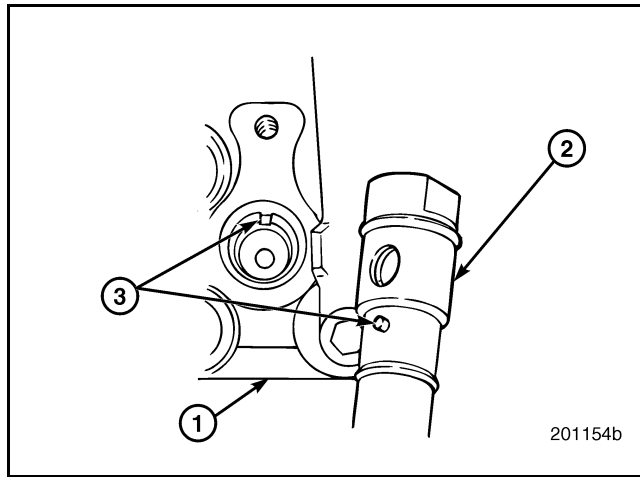

Figure 282 — Nozzle Holder Alignment
4. Insert the nozzle holder in the nozzle holder sleeve. Be sure to align the locator pin in the nozzle holder with the notch in the nozzle holder sleeve to ensure inlet tube alignment. Refer to Figure 282.